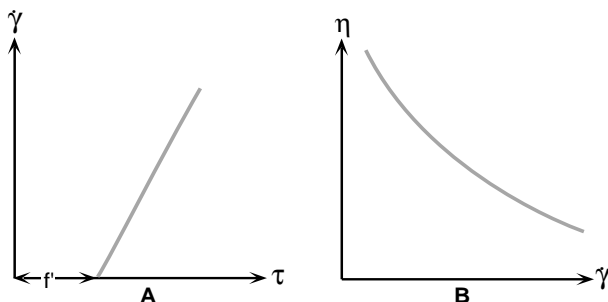

Figure 4-5
**PLASTIC:** This type of fluid will behave as a solid under static conditions. A certain amount of stress must be applied to the fluid before any flow is induced; this stress is called the “yield stress” ( $f'$ ). Tomato catsup is a good example of this type fluid; its yield value will often make it refuse to pour from the bottle until the bottle is shaken or struck, allowing the catsup to gush freely. Once the yield value is exceeded and flow begins, plastic fluids may display Newtonian, pseudoplastic, or dilatant flow characteristics. See Figure 4-5.